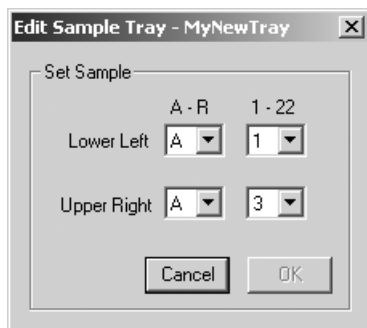

Fig 3-6. The Edit Sample Tray window.
- 11 (Optional) If you want to change the coordinates for a sample, click Edit Sample. The **Edit Sample** Tray window appears (fig 3-6). Change the grid coordinates for the sample and click **OK**.
- **Change the coordinates for an existing sample**—Click Edit Sample. The **Edit Sample** Tray window appears (fig 3-6). Change the grid coordinates for the sample and click **OK**.